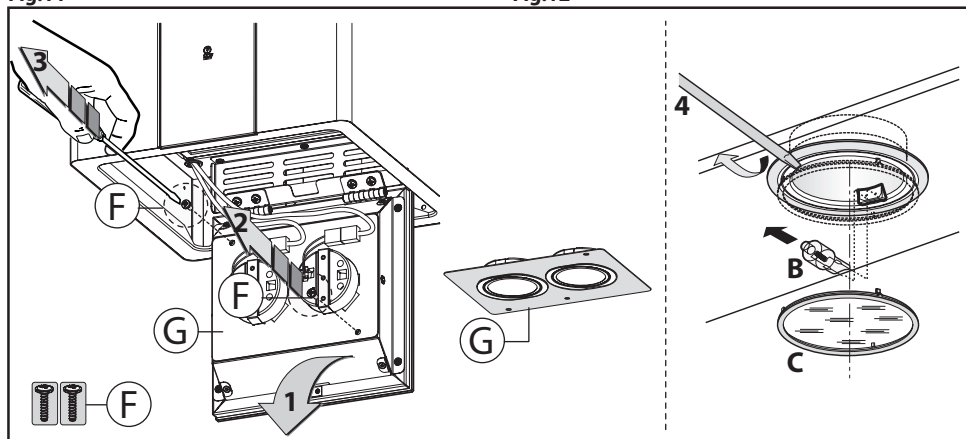

Fig.13
Before proceeding with the replacement of halogen lights it is necessary to open the aesthetic panel figure 13 - phase 1; loosen the two screws **F** lift the small panel **G** as shown in figure 13 - phase 2-3.
- **Replacing halogen light bulbs** (Fig. 13 - phase 4).